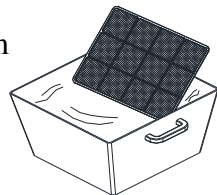

Fig.5
2.Let dust off by a vacuum cleaner or brush it gently. If filter is too dusty, clean it with warm water ( fig.5 )